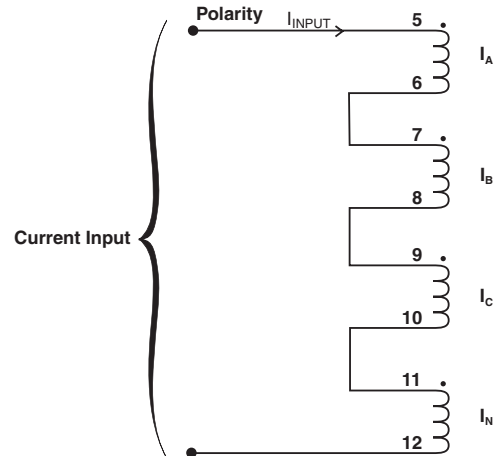

Figure 7-4 Single-Phase Current Input Configuration for Calibration
5. Connect and configure the current inputs (I_A , I_B , I_C and I_N) according to Figure 7-4.